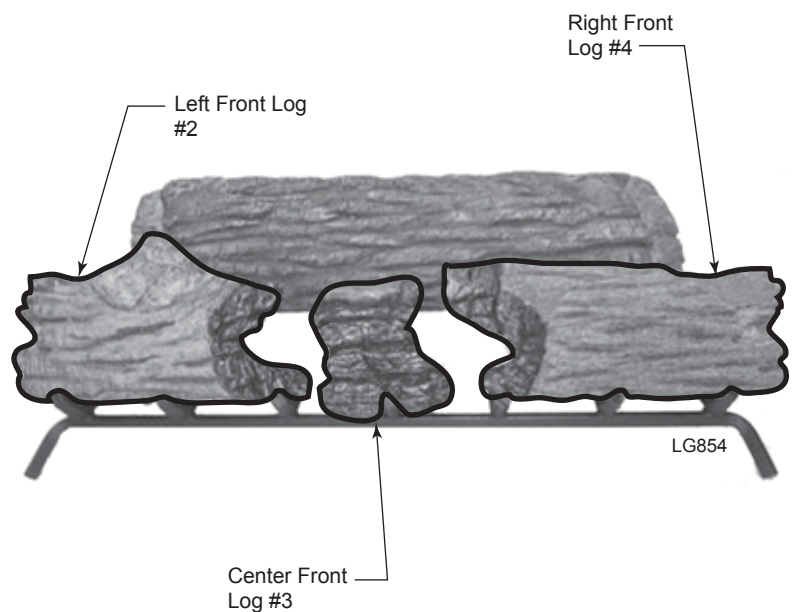

Figure 36 -
3. Place front left log #2 in front of the plate and to the left. *Figure 36*
4. Place center front log #3 on middle grate prong. *Figure 36*
5. Place front right log #4 in front of the plate and to the right. *Figure 36*